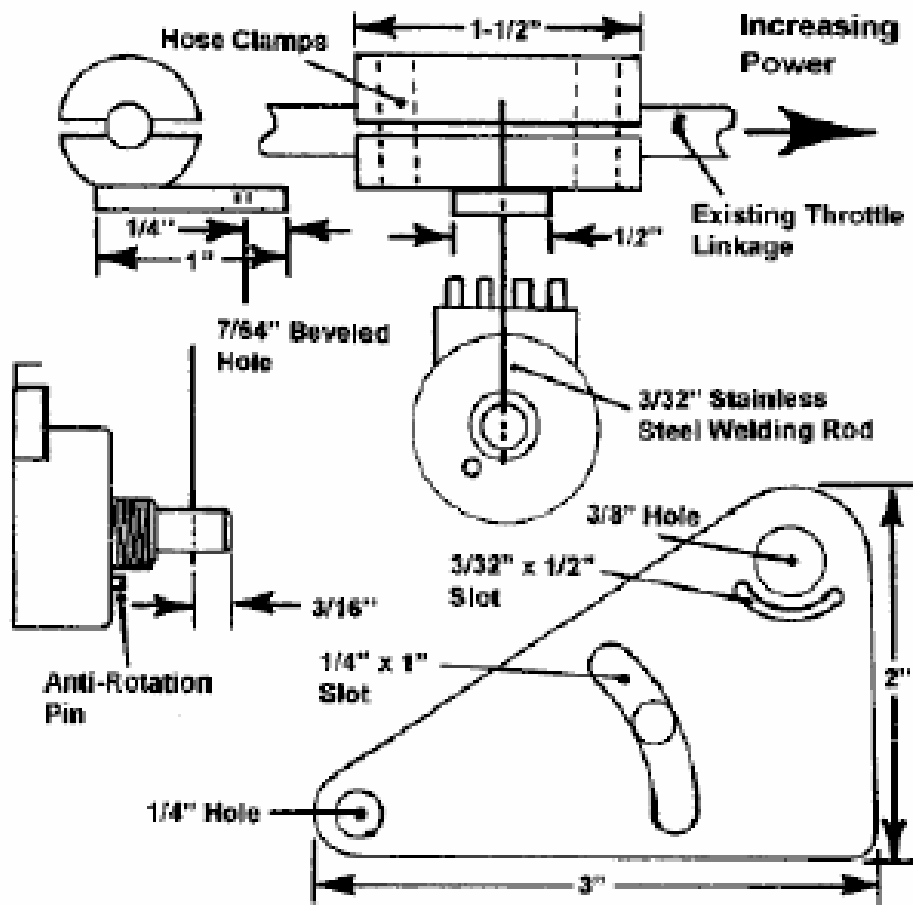

Figure 21: Throttle Assembly Details
- Figure 21 depicts a typical HyTronics throttle assembly. Since hundred of various throttle linkages are in use, the following procedure is offered as a general guideline.
2. Fabricate a pot mounting bracket with dimensions indicated in Figure 21 from 1/8" CPVC sheet. If necessary, modify the bracket size and attachment points to suit your vehicle. Do not cut the 3/32" slot until instructed to do so in step 6.
5. Referring to Figure 5, position the shaft of the 100K throttle potentiometer (pot) at the midpoint of its range of rotation. Using a marking pen, mark an alignment line between the pot shaft and bushing at the point shown in Figure 21. Using a #41 drill bit, drill a hole in the shaft at a point in line with the shaft alignment mark, and 3/16" in from the shaft end.
6. Cut a 6" length of 3/32" stainless steel welding rod. Temporarily install the pot into the 3/8" hole in the mounting bracket. Slide the welding rod into the shaft hole. Align the shaft and bushing marks and rotate the pot body so that the rod points directly upward (parallel with the front edge of the bracket). Place a mark at the point where the anti-rotation pin contacts the bracket. Remove the pot and rod from the bracket. As shown in Figure 21, cut a curved 3/32" wide slot extending 1/4" from each side of the marked point. Temporarily install the pot onto the bracket and check that the anti-rotation pin fits into the slot and does not bind in the slot as the pot body is rotated. If necessary, and using a small fine-tooth file, file the slot until the pot body rotates freely. Dress the slot edges with sandpaper.
9. Referring to Figure 21, attach the sleeve and arm assembly to the throttle linkage using a small hose clamp at each end. Locate the pot directly below the arm with the rod protruding through the hole in the arm. Position the bracket fore or aft and sideways until the rod is square with the sleeve arm and parallel with the front edge of the bracket with the throttle linkage is approximately at its midpoint of travel. Position the bracket up or down until the rod rotates through an angle of approximately 60 degrees each side of center as the throttle linkage moves through its full range.